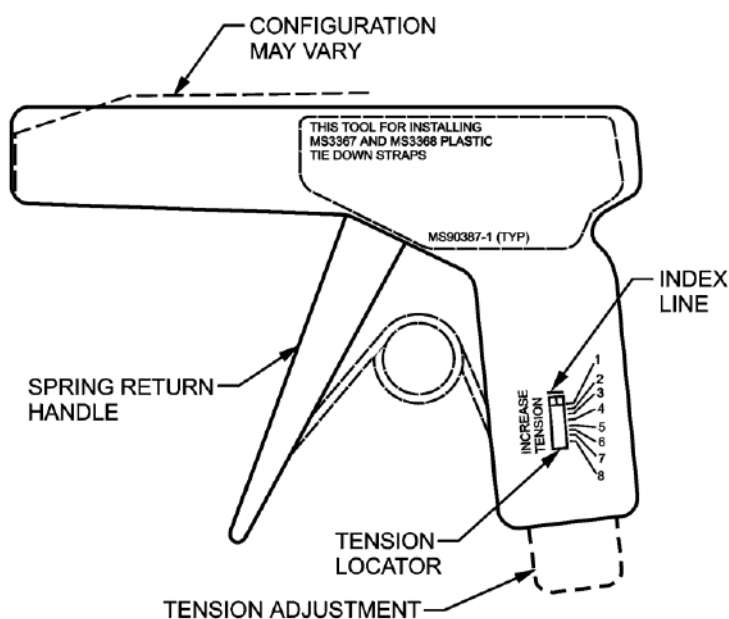

Figure 8-6 MS90387 Adjustable Hand Tools for Installing Self-Clinching Plastic Tiedown Straps
37. Using the Military hand tool listed in Table 8-2 and illustrated in Figure 8-6, perform the following: